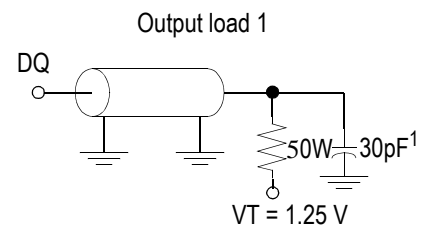

FIG. 1
Output load	Fig. 1 &amp; 2
- Test conditions as specified with output loading as shown in **Fig. 1** unless otherwise noted.